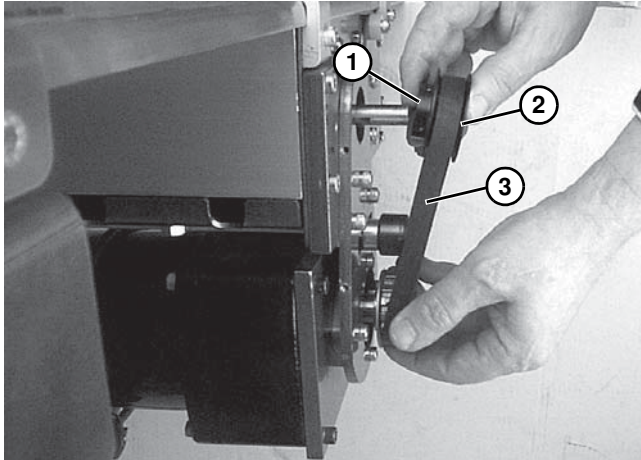

Figure 47
If the timing belt does not slide over the pulley flange, loosen the driven pulley set screws (**Figure 47, item 1**) and remove the pulley (**Figure 47, item 2**) with the belt (**Figure 47, item 3**).